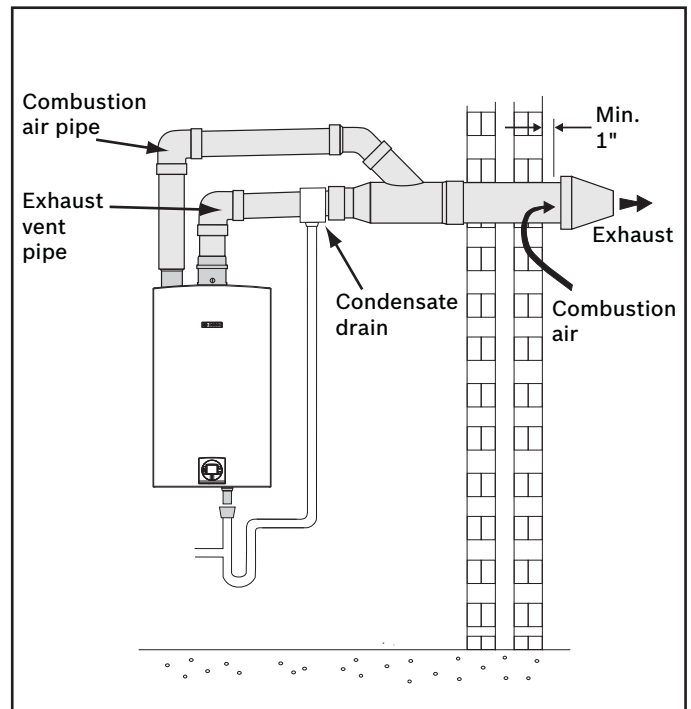

Fig. 9 Concentric vent installed - horizontal penetration
See Fig. 9 and Fig. 10 for examples of a condensate drain installation.
11. Complete tankless water heater installation per the water heater's installation manual (Fig. 9 and Fig.10).